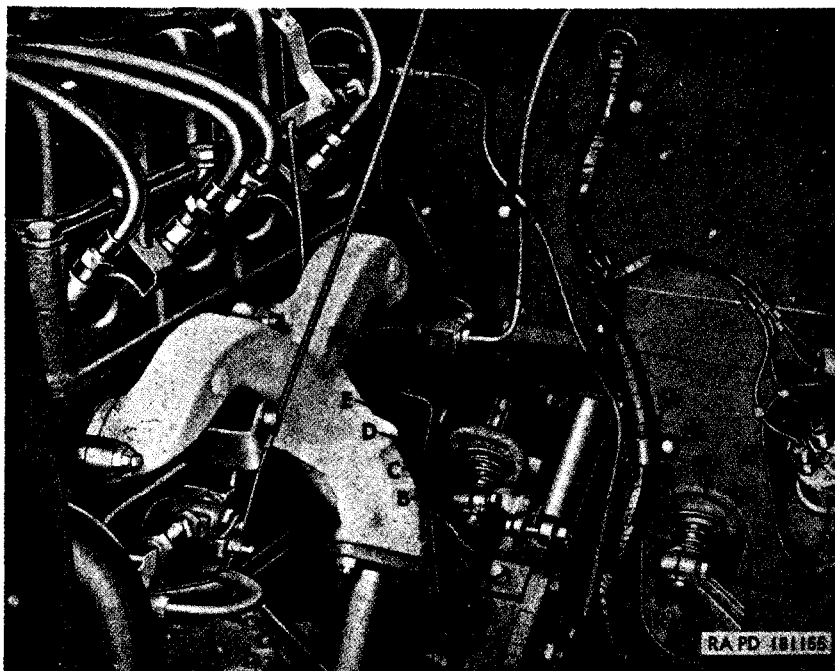

Figure 19. Disconnect points at left side of engine.
- (5) *Disconnect electrical cables* (fig. 19). Disconnect electrical cables (circuit numbers 18, 16, and 17) (P, M, and L) from headlight foot dimmer switch (N).
- (6) *Remove dash panel cable access plate* (fig. 19). Remove four lockwasher screws (G). Remove dash panel cable access
(7) *Disconnect brake pedal pad* (fig. 19). Remove bolt and lockwasher (A). Pull brake pedal pad (F) from brake pedal (B). Remove draft pad spring (C), draft pad flat washer (D), and draft pad (E).
(8) *Disconnect clutch pedal pad* (fig. 19). Remove bolt and lockwasher (Q). Pull clutch pedal pad (R) from clutch pedal (S). Remove pedal draft pad spring (X), pedal draft pad washer (T), and pedal draft pad (W).